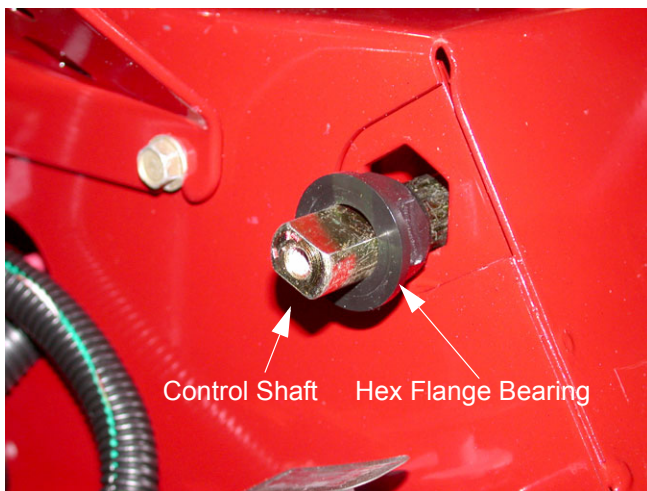

Figure 16.7
- 16.7. Pull the control hub off the control shaft. See Figure 16.7.